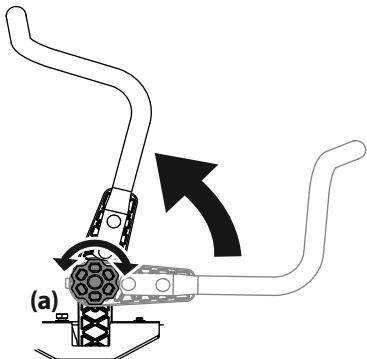

Figure 10
- Rotate the knob (a) counter-clockwise to loosen the knob (a). See Figure 10.
- Rotate the knob clockwise to secure the lapbar drive control lever into position. See Figure 10.